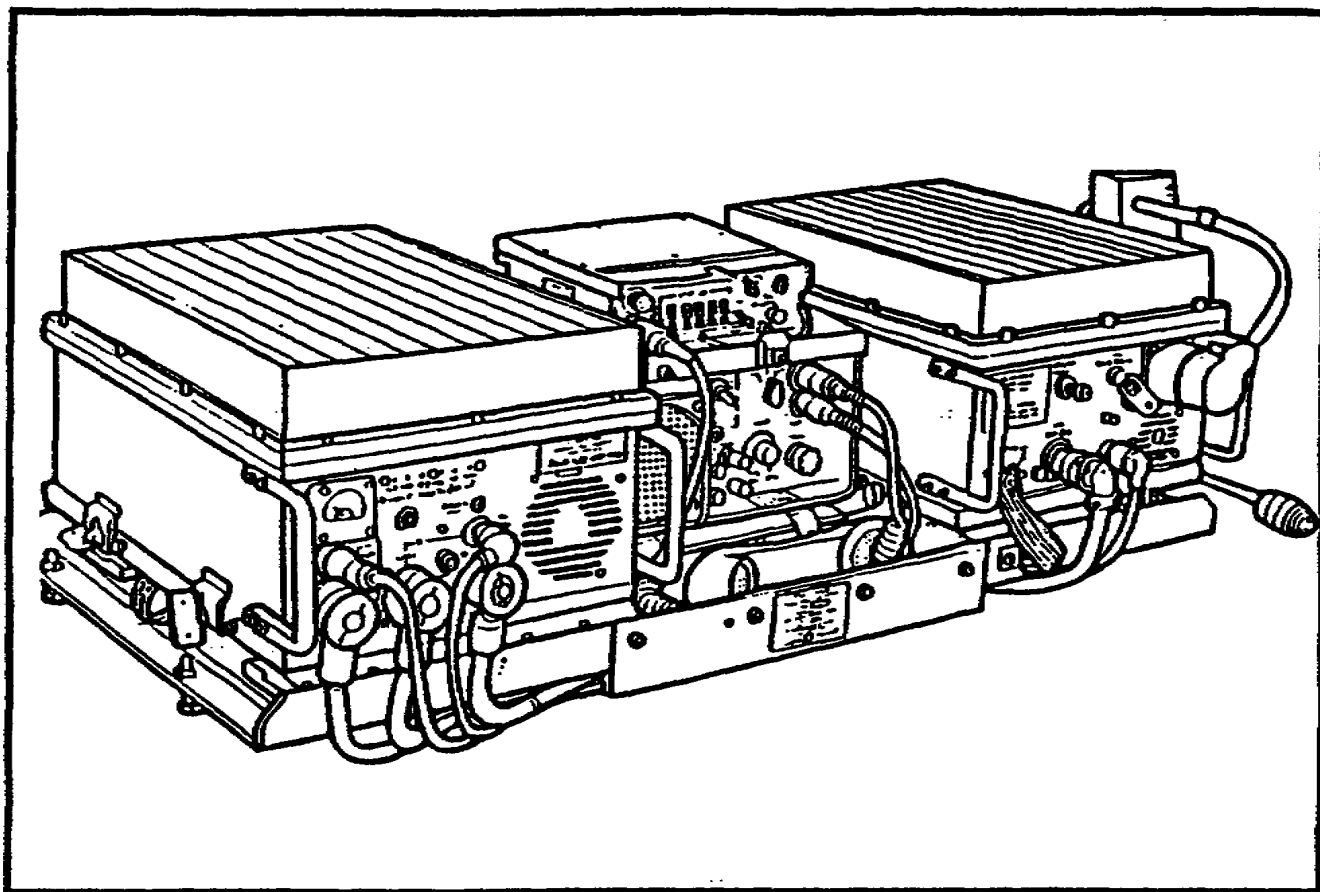

Figure 3. Configuration for tracked vehicle mount.
b. The configuration for use in tracked vehicles uses MT-6233/GRC-193A, which mounts low, on line, and with the CU-2064 facing forward (see Figure 3).